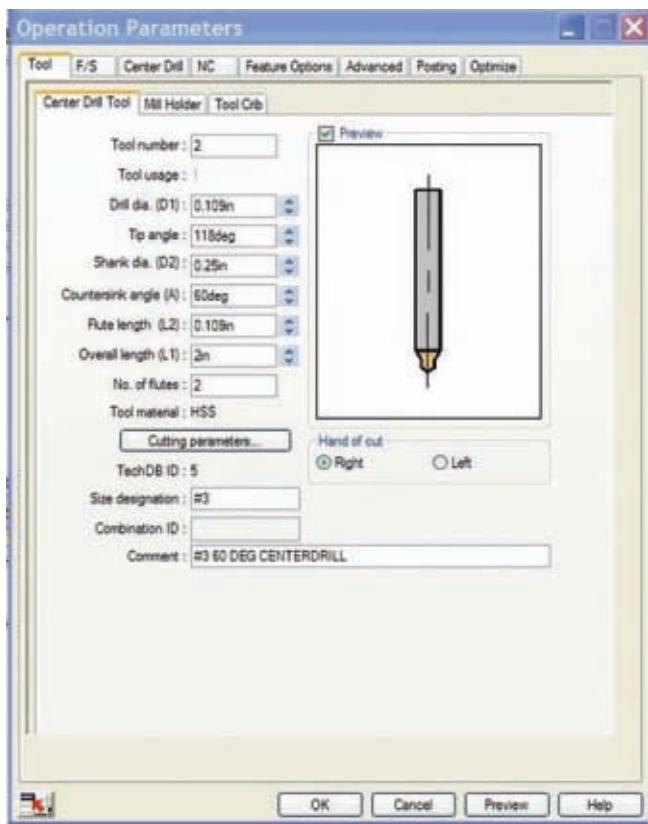

Figure 7-10 In this case, a center drill is selected for tool #1.
11. Select your tools and their parameters. (see Figs. 7-10 through 7-20)
Once you select a tool, the main screen for inputting these parameters pops up. For example, Figure 7-10 shows the screen for a center drill. There are tabs at the top of the screen you can select between to input cutting parameters.